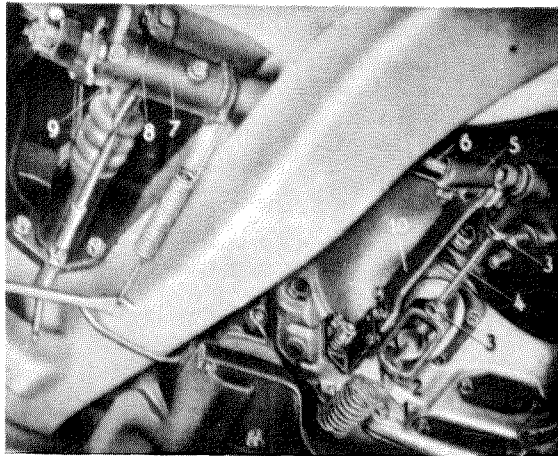

Fig. 26 — 1/4
7. Detach the return spring at the clutch throw-out fork and at the transmission. Then, after loosening the threaded bolt (1) press down the turnbuckle together with the pull rod (Fig. 26 — 1/4).